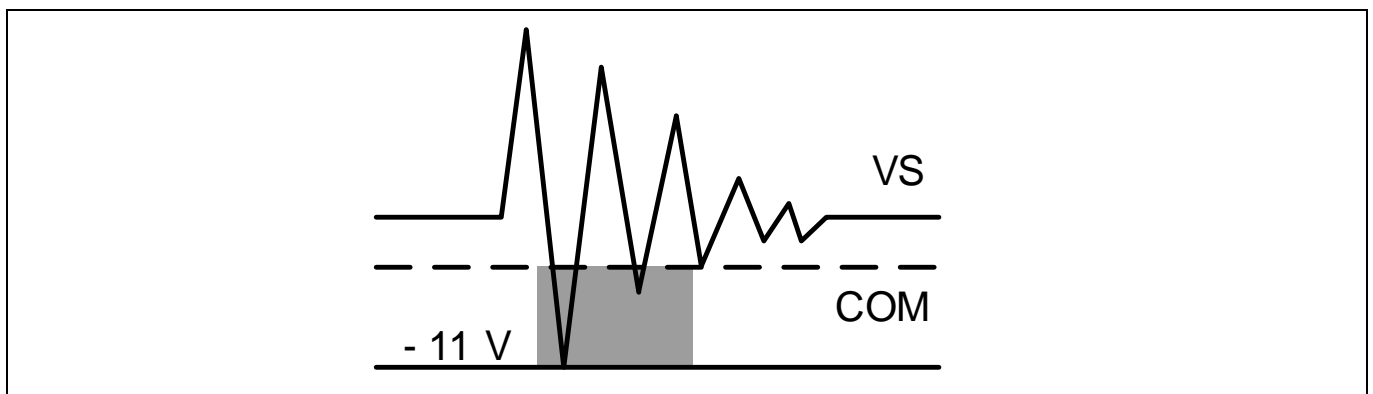

**Figure 18** Negative VS transient SOA for 2ED2106 (4) S06F (J) @  $V_{BS} = 15\text{ V}$
Infineon's HVICs have been designed for the robustness required in many of today's demanding applications. An indication of the 2ED2106 (4) S06F (J)'s robustness can be seen in Figure 18, where the 2ED2106 (4) S06F (J)'s Safe Operating Area is shown at  $V_{BS}=15$  V based on repetitive negative  $V_S$  spikes. A negative  $V_S$  transient voltage falling in the grey area (outside SOA) may lead to IC permanent damage; viceversa unwanted functional anomalies or permanent damage to the IC do not appear if negative  $V_S$  transients fall inside the SOA.